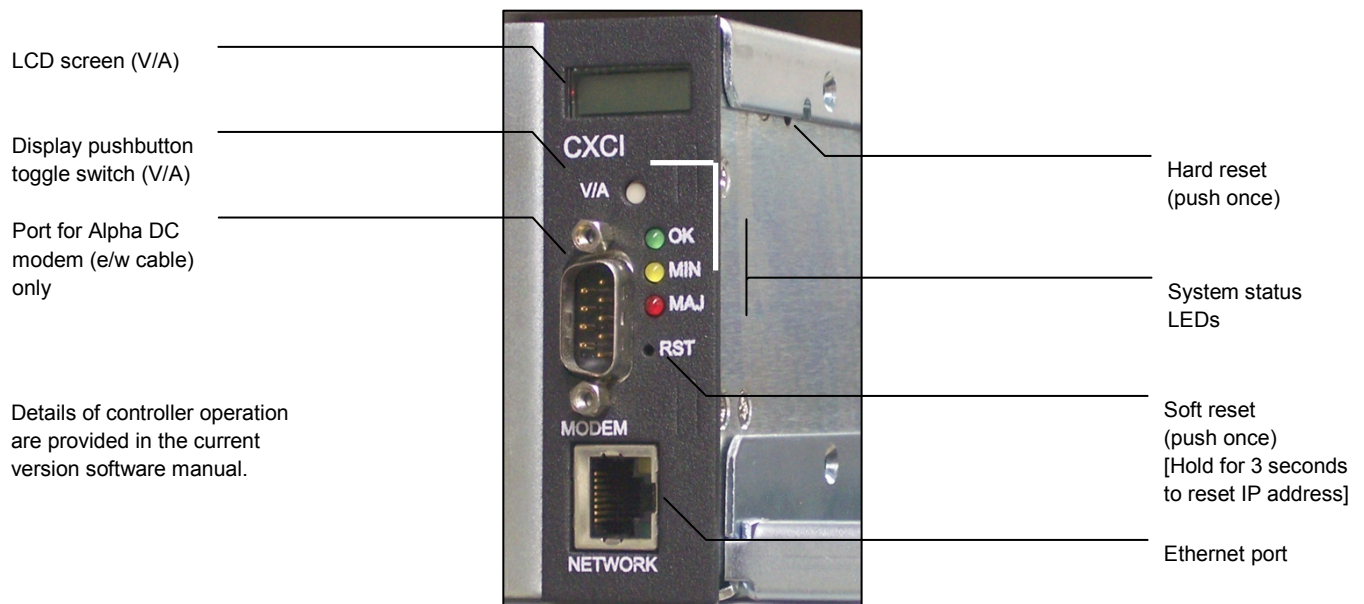
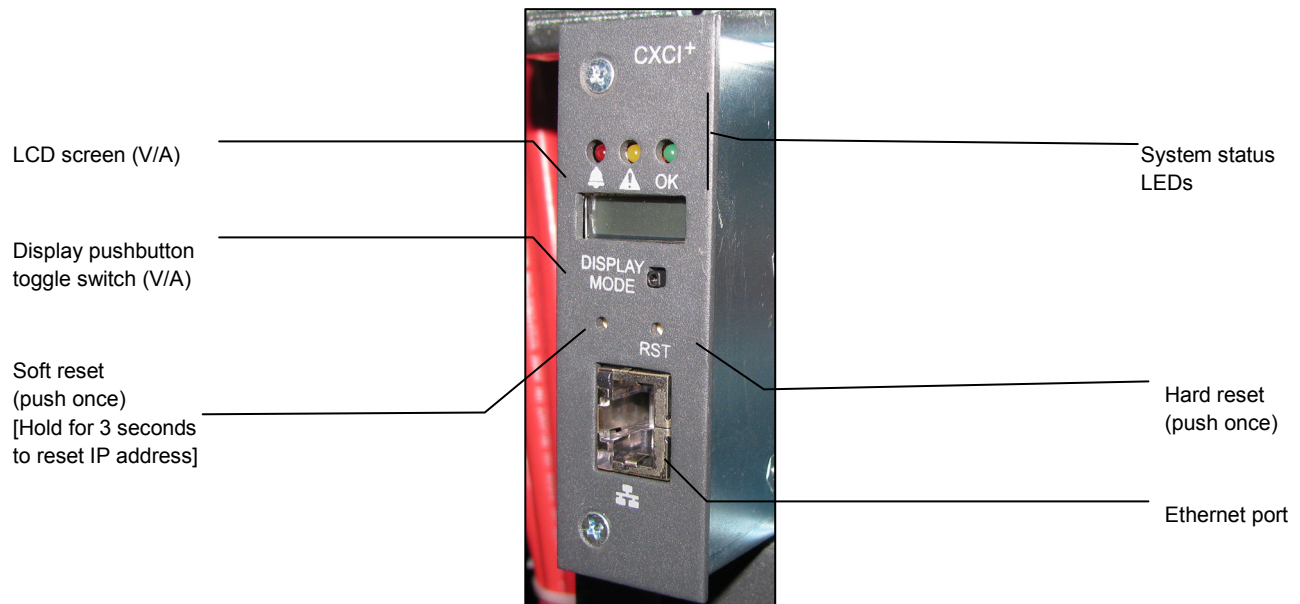

Figure 2–CXCI model system controller front panel
Figure 3—Cordex CXCI+ model system controller front panel
The CXCI (Figure 2) and the CXCI+ (Figure 3) controllers have a 4-digit display, for monitoring system voltage (V) and current (A). A pushbutton toggle switch allows the user to alternate the display reading.
The Modem port (front panel DB-9 connector, Figure 2) is designed for connection to Alpha Technologies' Cordex DC Modem #018-585-20.
The Ethernet port is designed for CXCI/CXCI+ connection to a user supplied network (TCP/IP secured by user) via a front panel RJ-45 jack (Figure 2) and a standard network cable.